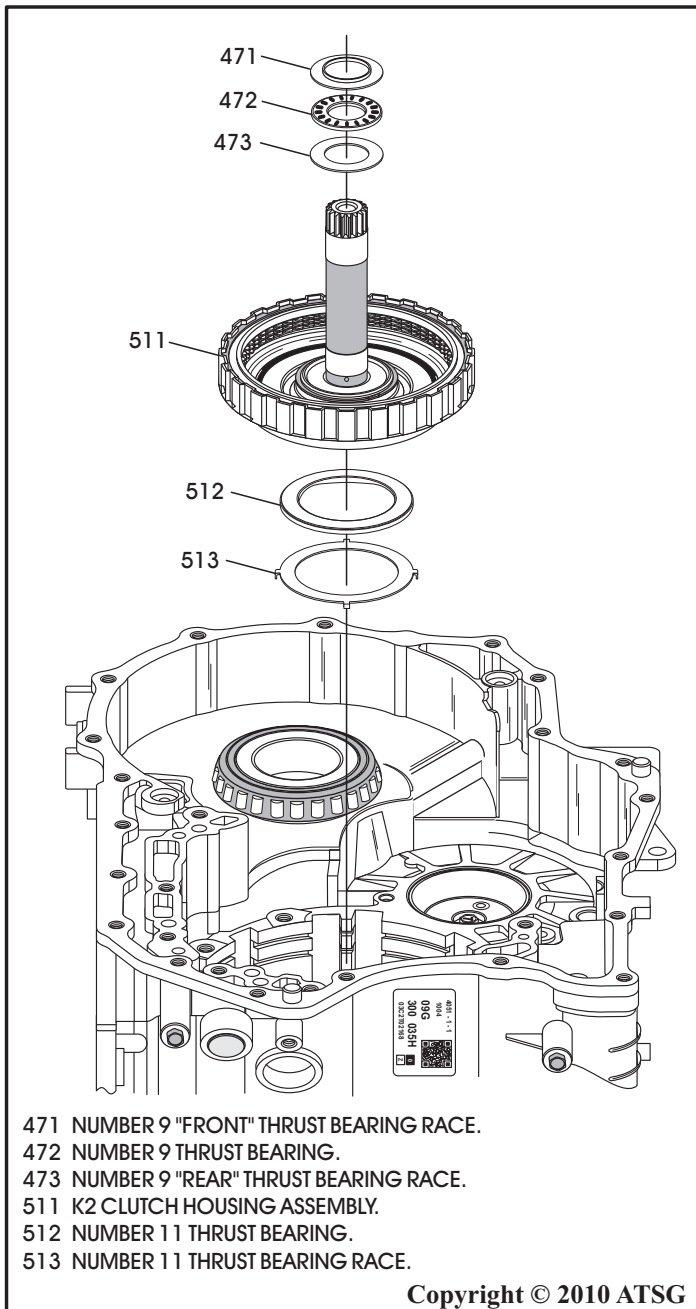

Figure 84
7. Remove the K2 clutch housing assembly along with the number 9 thrust bearing and races, as shown in Figure 84, and set aside for component rebuild section.
68. Remove the number 11 thrust bearing and race, as shown in Figure 84.